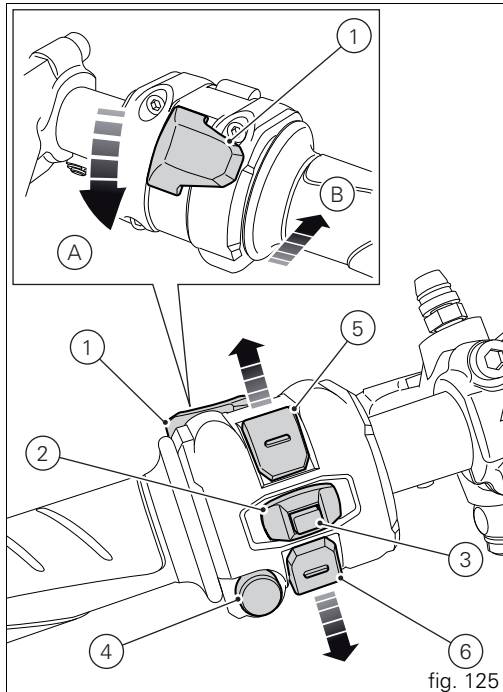

fig. 125
LH switch (fig. 125)
- 1) Dip switch, light dip switch, two positions (fig. 125):
- 2) Button  = three-position turn indicator (fig. 125):